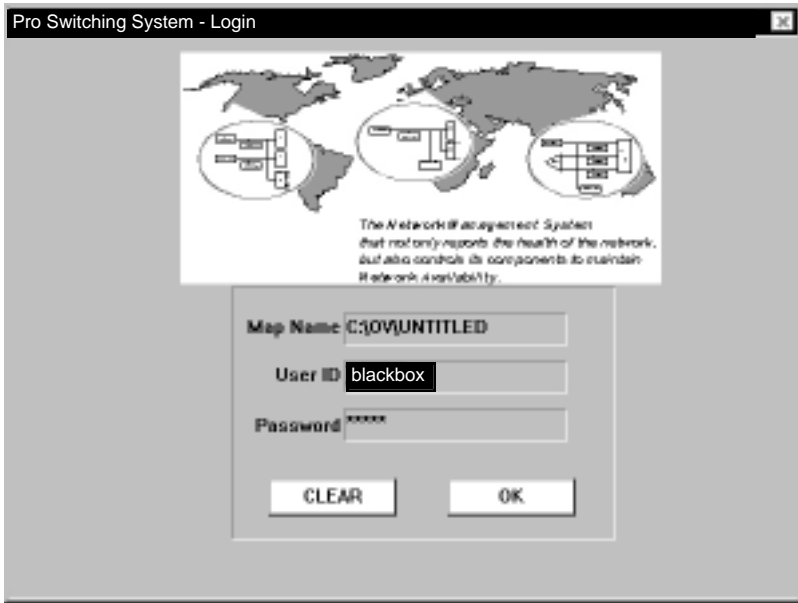

Figure 6-5. Login Screen.
1. From the main menu, select File, then New. The Login screen appears (see Figure 6-5).